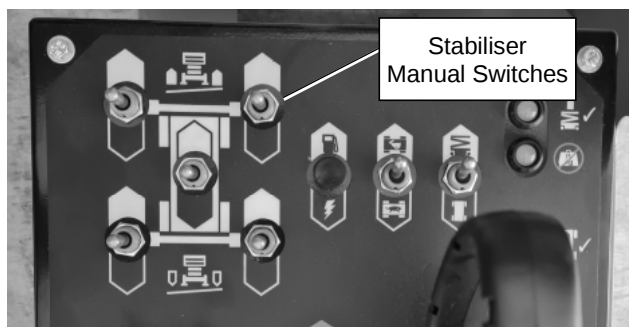

Figure 8.5 – Stabiliser Manual Switches
- ✧ Pull and hold the stabiliser switches backward one at a time, until all four stabiliser pads contact the ground (see figure 8.5).